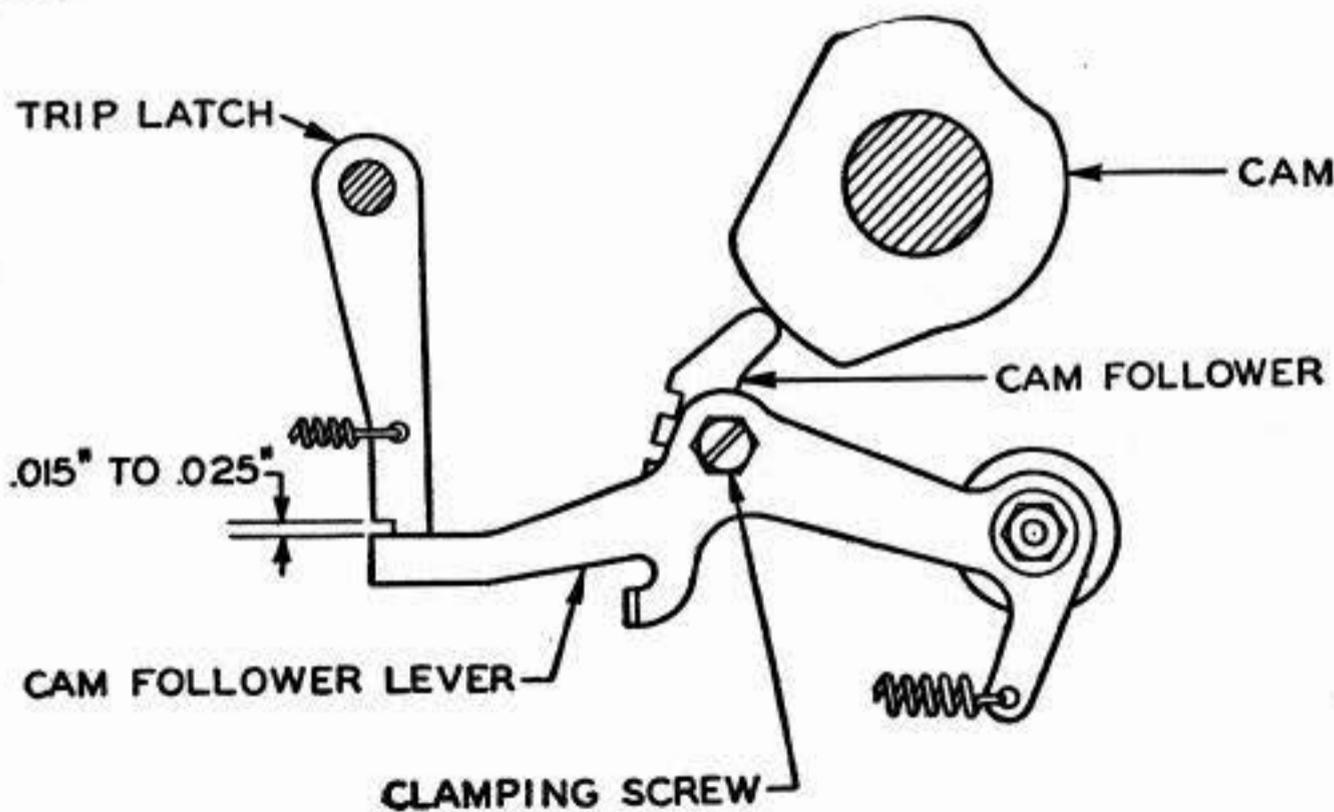

Fig 48
5.02 **Cam-Follower Reset:** With the cam follower resting on the highest part of the cam and the trip and auxiliary latches latched, there should be a clearance of Min .015", Max .025" between the cam-follower lever and the latching surface of the triplatch. **Fig 48**